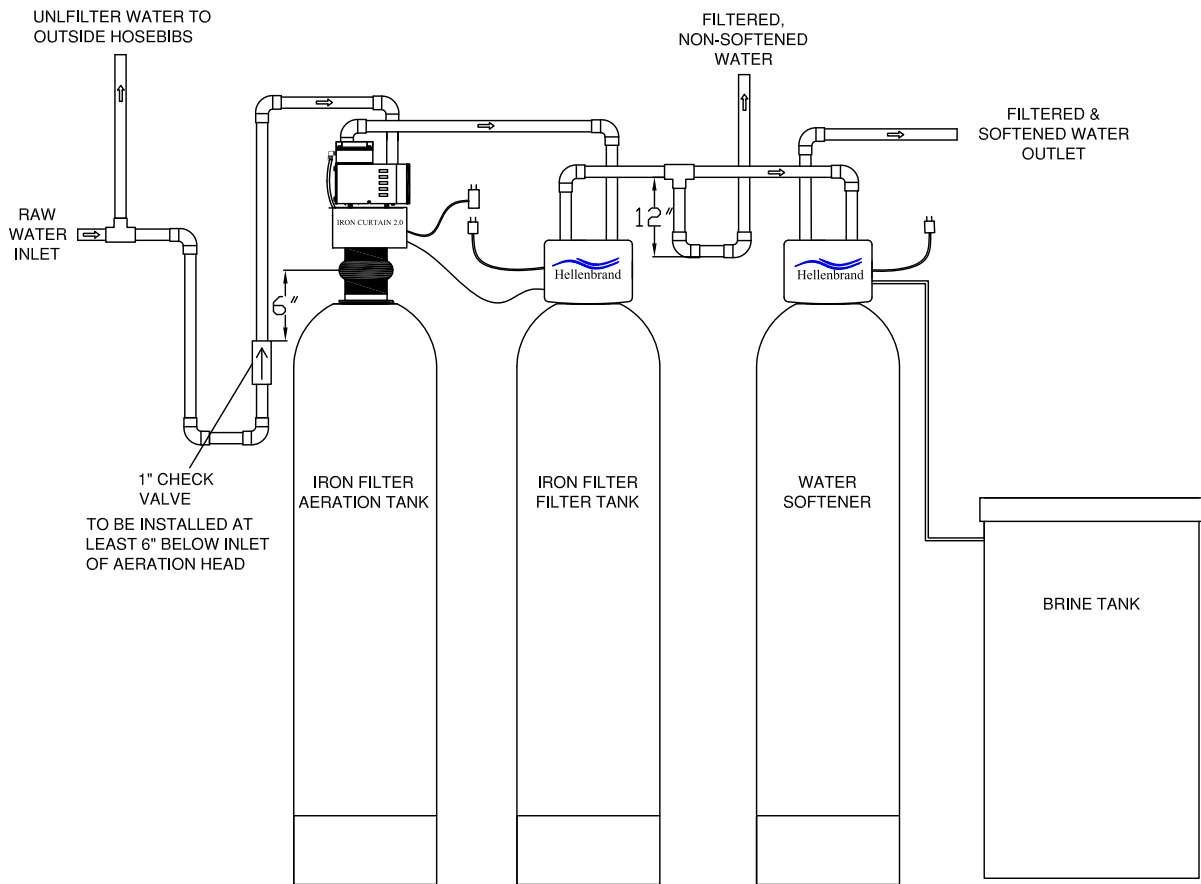

Figure 1
2. The inlet check valve must be installed in the upflow position on the raw water supply feeding the aeration tank. (See figure 1 page 7 for proper check valve installation procedures)
3. When installing an Iron Curtain® Filter system it is common to provide filtered water to some fixtures such as the kitchen cold faucet. This is typically done as a matter of personal preference. In rare occasions it has been noted that the customer may experience some air in the filtered water line on the morning after regeneration. It has proven to be beneficial to plumb the line for the filtered-only water fixture in a downward direction before the inlet to the softener (12 inches recommended), then make a reverse turn and go upward toward the fixture. Understanding that air always rises to the highest point in a water system, and it cannot naturally flow downward. (Figure 1, page 7)